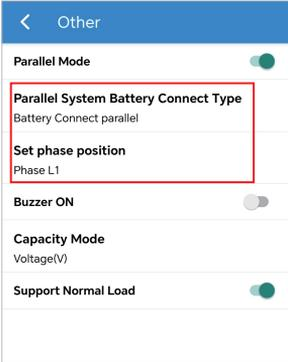

Figure 4-3 Inverter N1-Phase L1
2. Go to Console > Hybrid Setting > Other to enable parallel mode, select the correct battery connection type, and set the phase position accordingly, as shown in *Figure 4-3--4-5*. Notice that all three inverters should be set in this step.